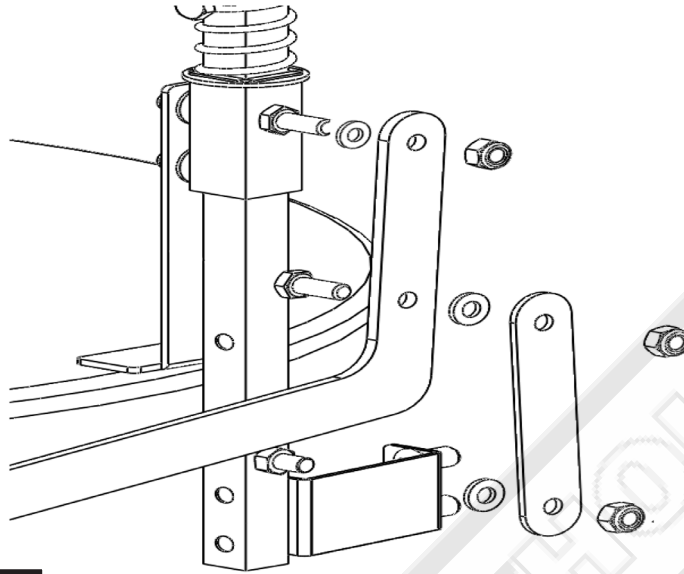

FIG. 4.10
10. Secure the lever handle and linkage plate on the lock handle guides with (3) plastic washer $\varnothing 10 \times \varnothing 21 \times 1.6t$ and (3) lock nut 5/16. (Fig. 4.10)